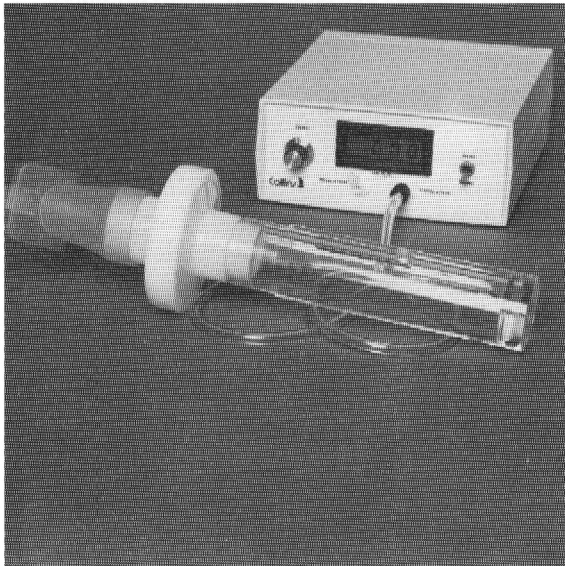

Figure 2. DPM Setup for Measurement of MEP
1. Have the mouth assembly connected to the EXHALATION port, as shown in Figure 2.